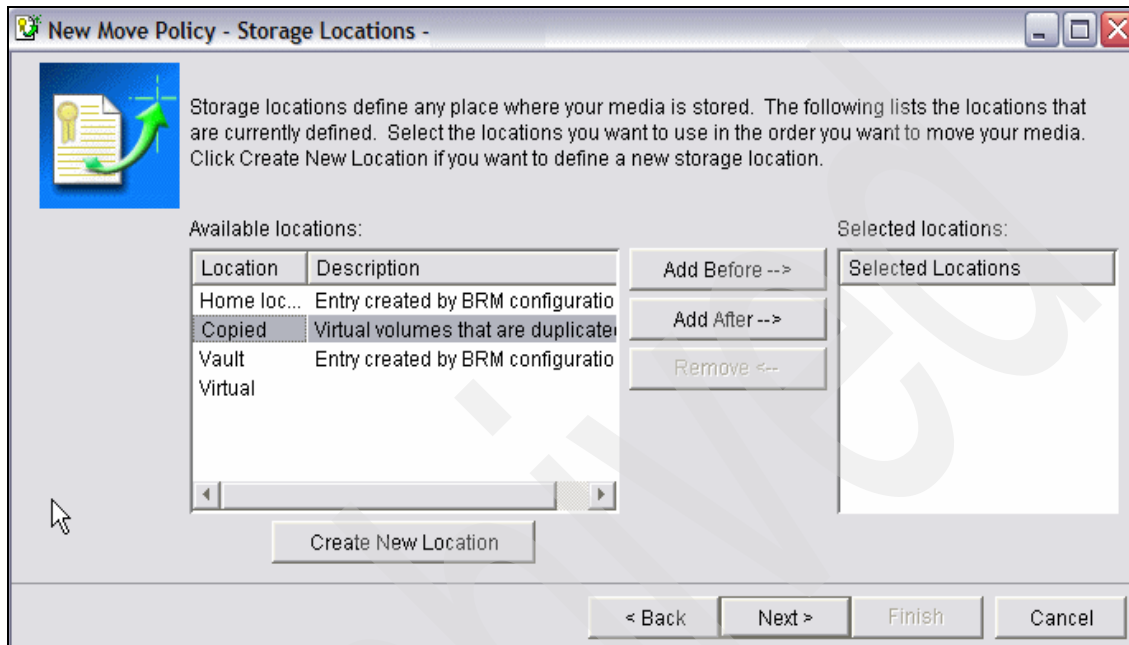

Figure 7-6 Select locations
- b. Finish by clicking **Next**, as shown in Figure 7-6.